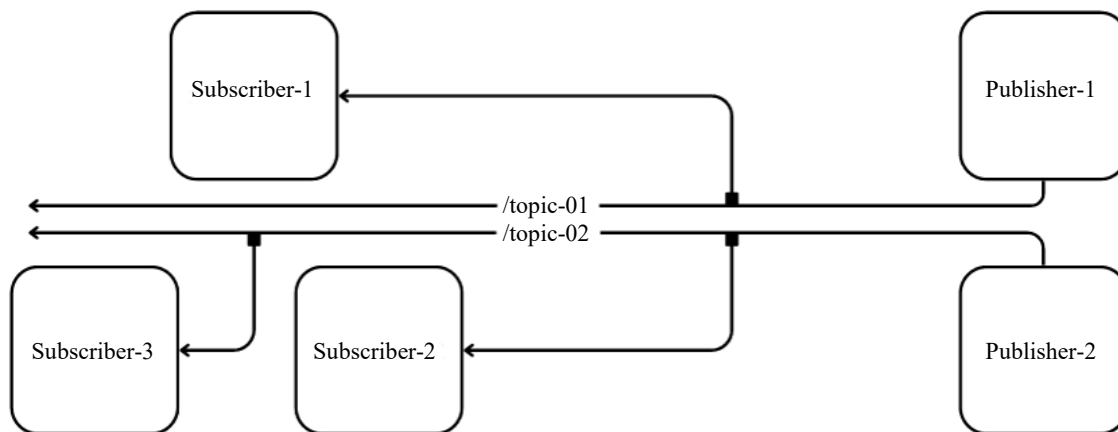

Figure 2. Topics.
1. *Topics* : Topics are like FM radio; subscribers can choose their publishers. Topics are usually used by sensors and actuators because they need to be non-blocking and have a simpler interface. Logging and visualization are also other use cases (Figure 2).